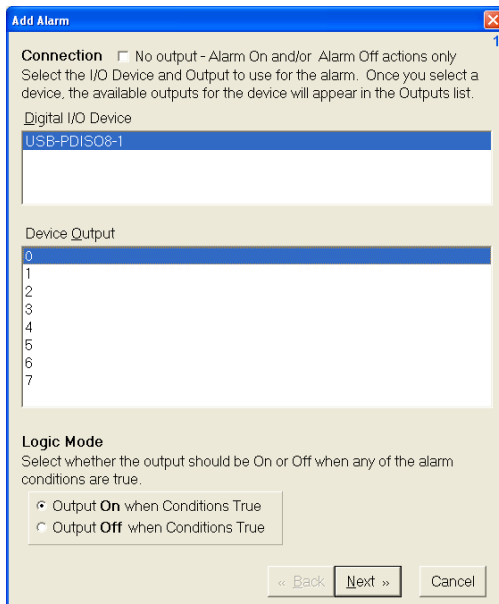

Figure 5. Select Device Output 0
Step 6: Start Total Vu. In *Configure>Full Configuration>Alarms* ICON. Select *Add Alarm* to launch the alarm wizard. Configure outputs 0,1 & 2 for RED, YELLOW & GREEN lights respectively (optional audible alarms on 4 & 5). Follow wizard screens; Figures 5 - 9 below.